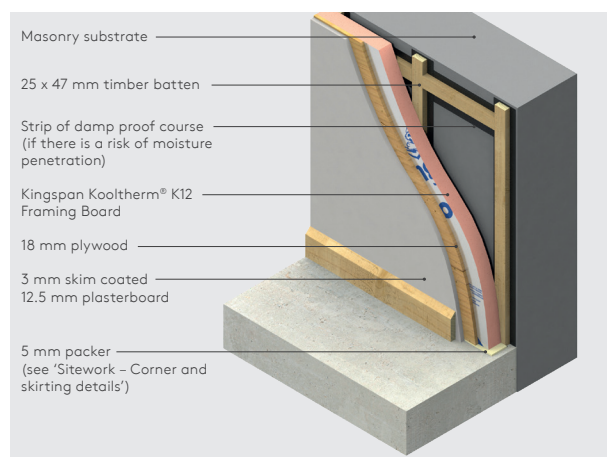

Figure 4
- Alternatively, where there are to be extensive heavy internal fittings, the construction outlined in Figure 4 can be adopted.